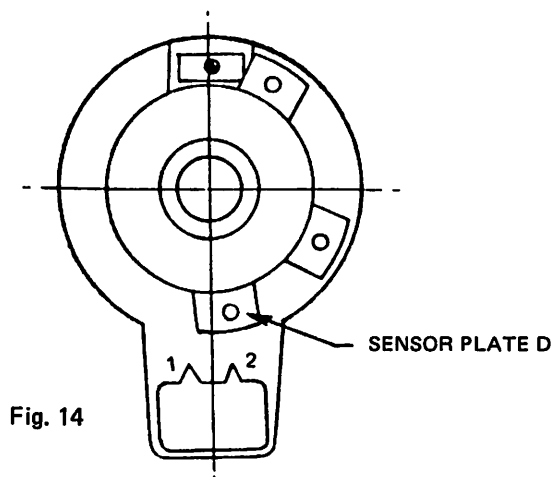

Fig. 14
10. The trimmer and tension releasing mechanisms return to their rest positions upon completion of the trimming operation and the machine stops in the upper needle position. When the sensor plate D (yellow) reaches a point shown in Fig. 14.